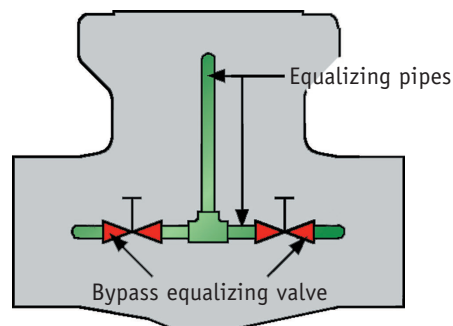

Figure 6
between the upstream and downstream bores (delta T of 200°F or less). Bypasses (Figure 6) connecting the valve upstream and downstream bores can facilitate this thermal equalization. Care must be taken to verify upstream vs. downstream thermal equalization at the valve itself, not away from the valve on connecting pipe. The new generation combined-cycle plants with their comparatively (with coal-fired plants) fast startup procedures are particularly susceptible to thermal binding. However, the most effective way to guard against thermal binding is to
- Bypass with one or more bypass valves and an equalizing pipe joining the center cavity of the valve with the bypass pipe. Depending on the number and configuration of the bypass valves, bi-directional sealing may be maintained (Figure 6).